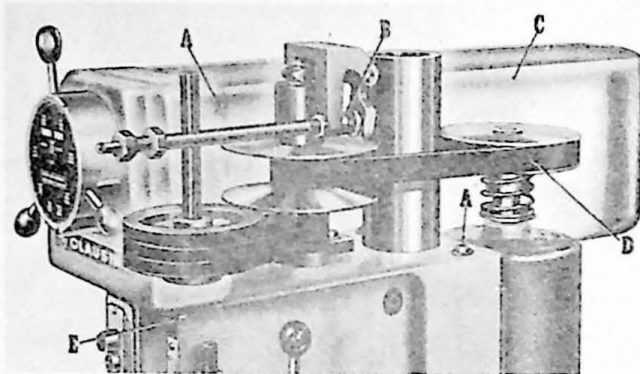
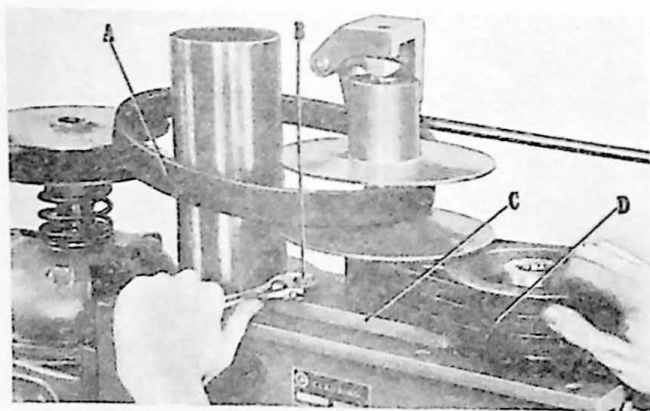

Figure 5
Figure 6
1. Remove belt guard (C, fig. 5).
2. Remove two screws (E). Loosen nut (B) and remove guard, handwheel and tube assembly.
3. Remove variable speed belt (D).
3. Remove variable speed belt (A, fig. 6).
4. Loosen two screws (B) in countershaft housing (C), slide housing towards front of head.
5. Remove the spindle belts (D).